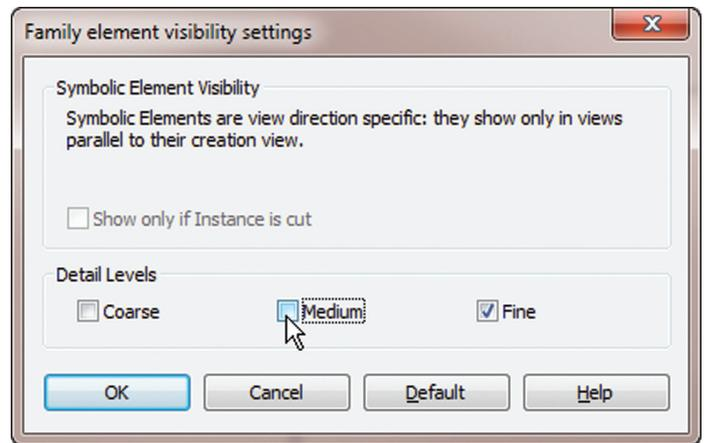

Figure 3: Turn off “Fine”
5. Clear the Fine option for Detail Levels (see Figure 3).